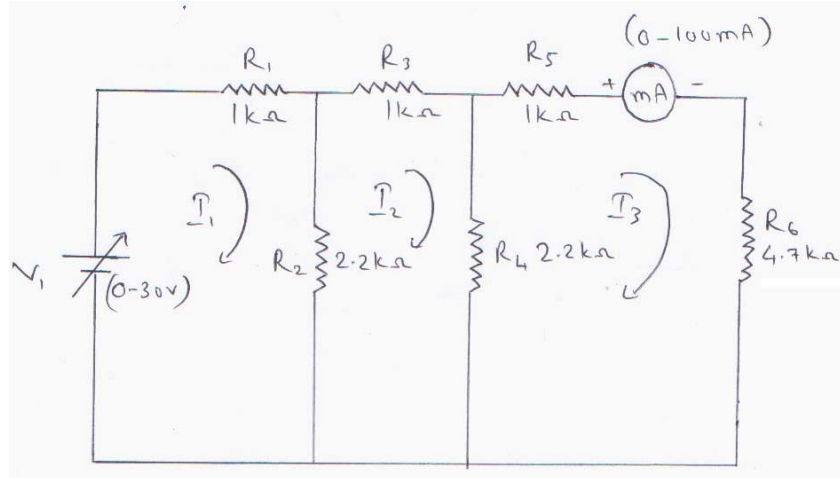

Figure 3.1
1. Connection are made as per the circuit diagram shown in figure 3.1